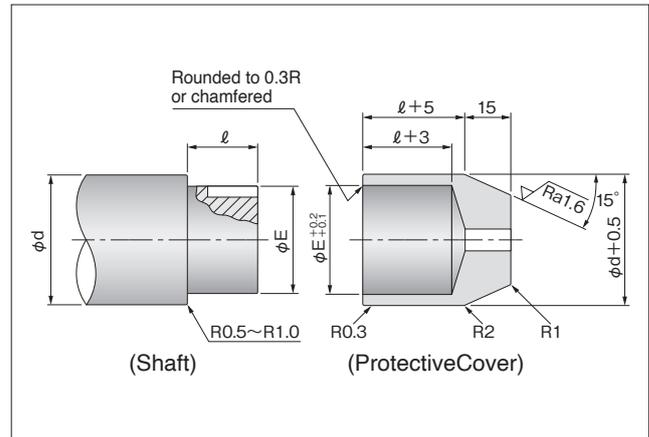

Fig. 7-13 Protective Key way/Spline Cover
- ❹ If the shaft has key ways or splines, the seal's lip edge may be damaged. Cover the shaft as illustrated in Fig. 7-13.
- 2 Use an installation jig when there are key ways or splines on the shaft. (Refer to Fig. 7-13 on page 48.)